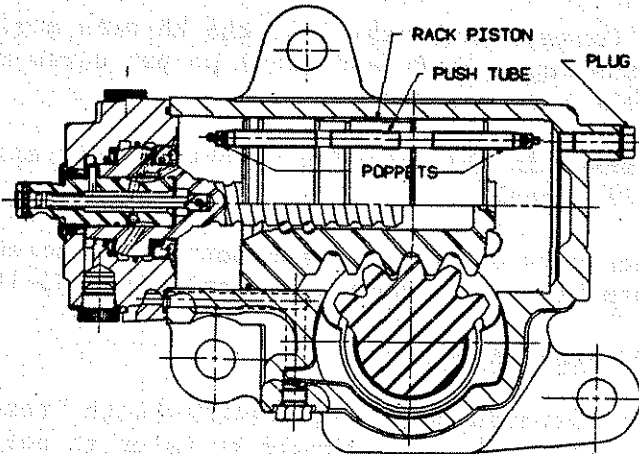

FIG 1. AS RECEIVED
1. Ross TAS 65 steering gears are equipped with "resettable automatic poppets". (fig. 1) Care should be taken to not allow the gear output shaft to turn more than 25° in either direction until the gear is installed on the vehicle and the wheel turn angles are set by adjusting the axle stops according to 33-14118, Page 1-4.